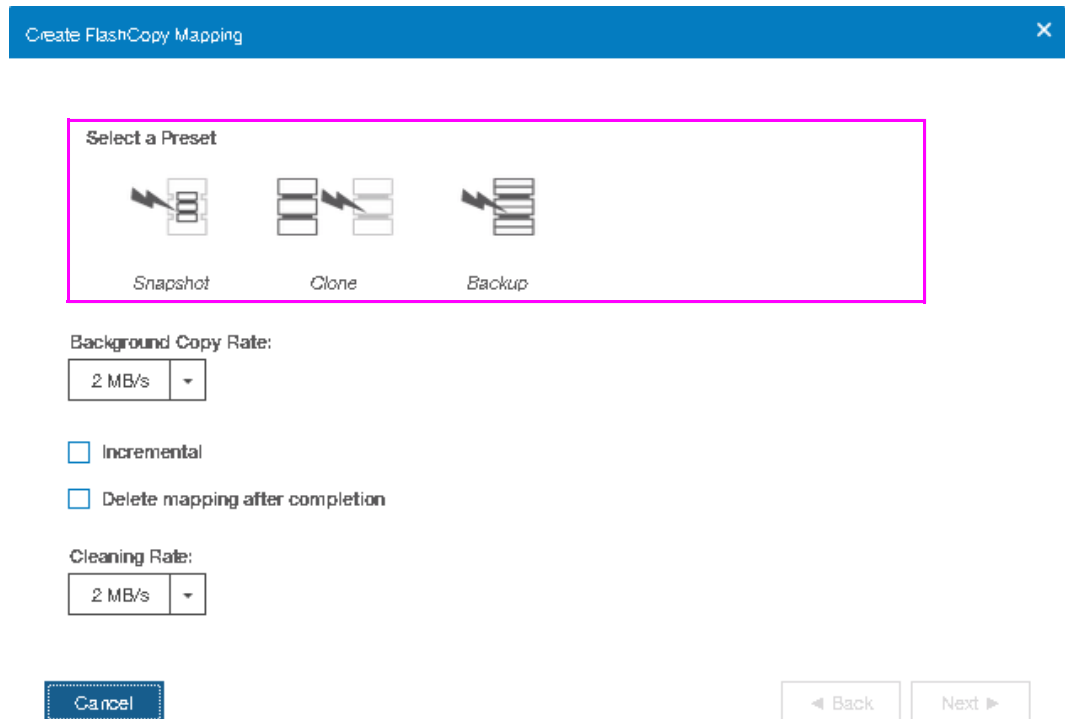

Figure 10-24 Create FlashCopy Mapping window
- In the Create FlashCopy Mapping window (Figure 10-24 on page 489), you must select one FlashCopy preset. The GUI provides the following presets to simplify common FlashCopy operations: